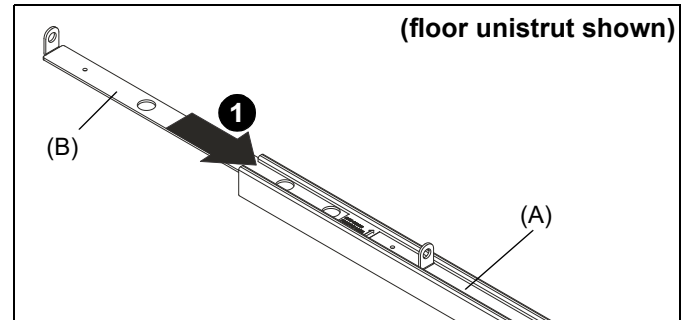

Figure 2
1. Insert slide plate (B) into unistrut plate (A). (See Figure 2)